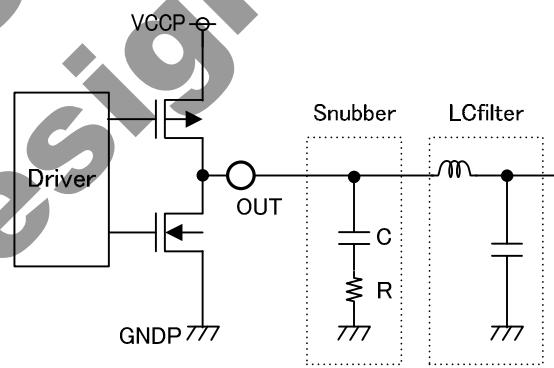

Figure 80. snubber schematic
- ① Measure the spike resonance frequency f_1 of the PWM output wave shape (When it stands up.) by using FET probe in the OUT terminal. (Figure 80) The FET probe is to monitor very near pin and shorten ground lead at the time of that.
- ② Measure resonance frequency f_2 of the spike as a snubber circuit fixed number $R=0\Omega$ (Only with the condenser C , to connect GND) At this time, the value of the condenser C is adjusted until it becomes half of the frequency ($2f_2=f_1$) of the resonance frequency f_1 of ①. The value of C which it could get here is three times of the parasitic capacity C_p that a spike is formed. ($C=3C_p$)
- ③ Parasitic inductance L_p is looked for at the next formula.